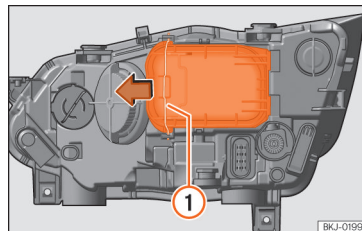

Fig. 54 In the engine compartment: remove the cover.
- Move the loop »» **Fig. 54 1** in the direction of the arrow and remove the cover.